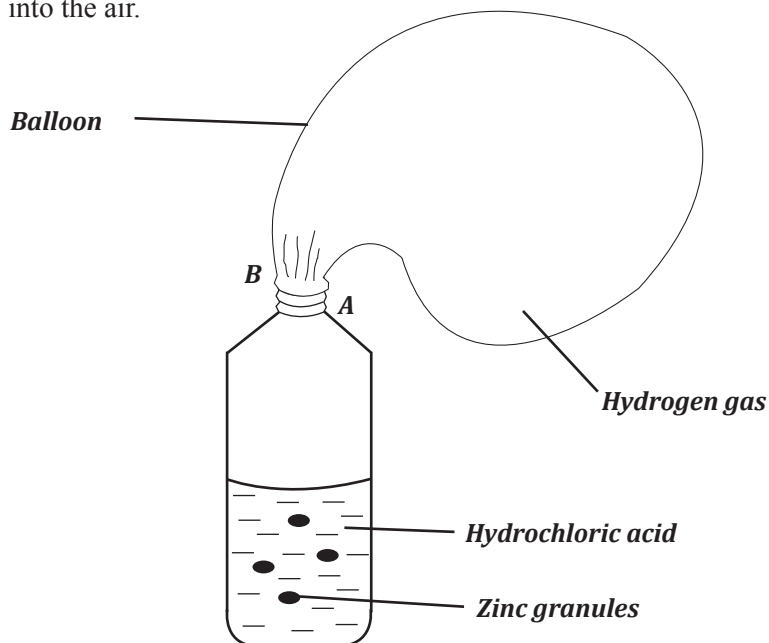

Figure 9.3; filling a balloon with hydrogen
2. Tie a balloon to the mouth of the bottle using a cotton thread at point A; see figure 9.3